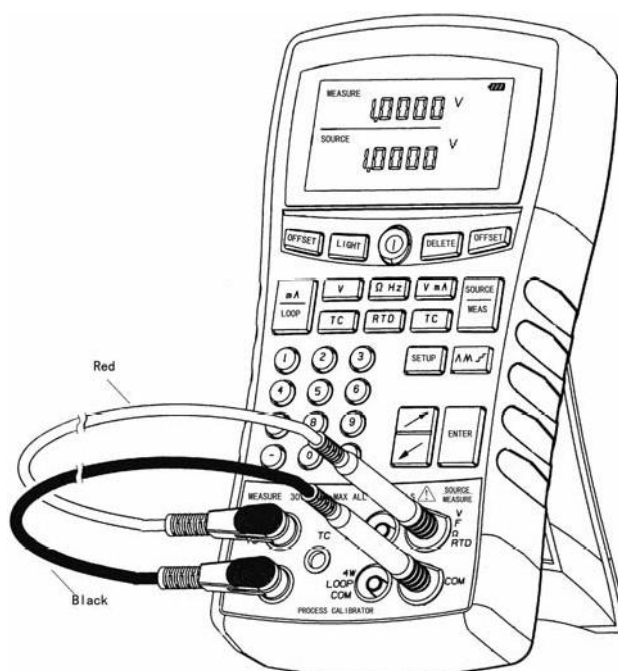

Figure3-1 Source/Measure V DC
- (1) Press  to turn on the SUP825J Multi-function process calibrator.
- (2) Clearing offset of measuring V DC in the upper display and sourcing V DC in the lower display according to '10 Clear Function'.
- (3) Press  to select DC voltage.
- (4) Press  for Source mode. Press  to select sourcing V DC.
- (5) According to the flashing jacks , connect the SUP825J Multi-function process calibrator's voltage output to its voltage input as Figure3-1 shows.
- (6) Enter the desired output value by press numeric keys on the keypad and press  to begin sourcing V DC.
- (7) The SUP825J Multi-function process calibrator is simultaneously sourcing V DC and measuring V DC. You should see the measurement readings in the upper display, and the active source value in the lower display.